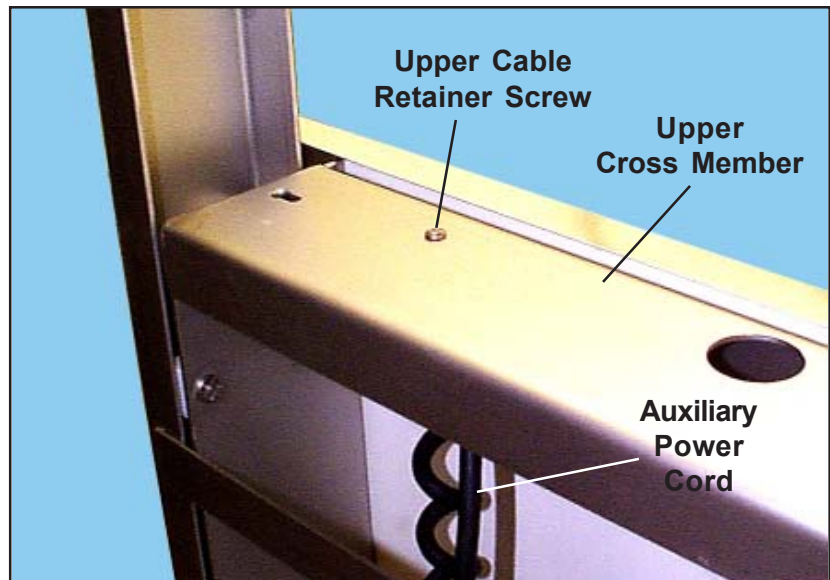

Figure 58. Upper Cable Retainer
11. With a Phillips screwdriver and a 3/8-in. wrench, remove the upper cable retainer on the upper cross member (Figure 58).
2. Fasten the upper cable retainer and power cord to the upper cross member (Figure 58).